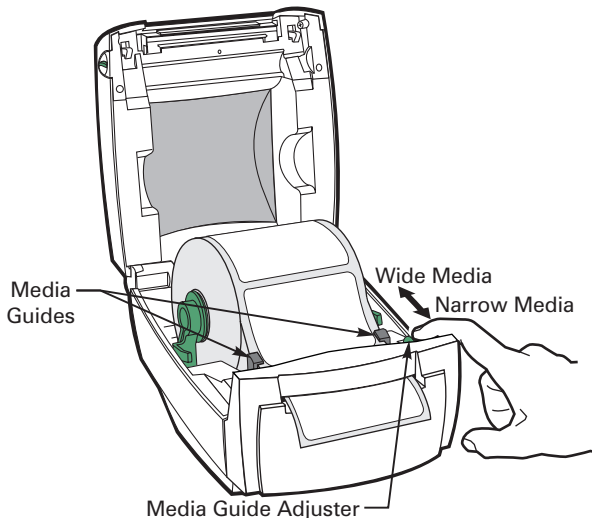

Figure 17
4. Refer to Figure 17. Thread the media through the media guides.
NOTE: If the media guides must be changed to accommodate the width of the media, turn the green media guide adjuster (refer to Figure 17). The media guides should just touch, but not restrict, the edges of the media.
5. Refer to Figure 17. Thread the media through the cutter unit.